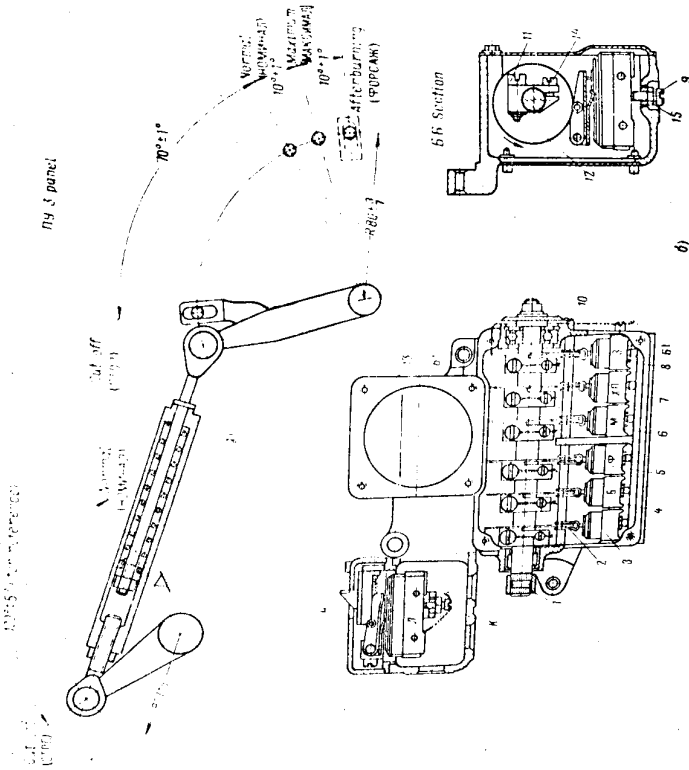

Fig.12. IV-3 Control Panel
1. Unlock and turn out the four bolts holding the upper cover of control panel NY-3, then remove the cover (Fig. 12).
2. Unlock screws 11 and 14 (See Fig. 12).
Prior to adjusting limit switch J of the compressor air blow-off band, check the limit switch for proper operation by shifting stop H (see Fig. 12) thereby opening and closing the compressor ports with the help of the air blow-off band.